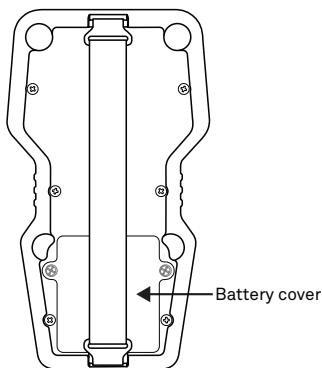

Figure 23 Battery cover
- Turn the TEMPOS controller over and locate the battery cover in the lower section of the back panel (Figure 23).